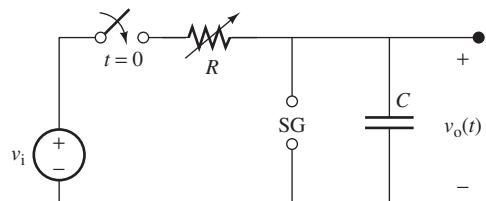
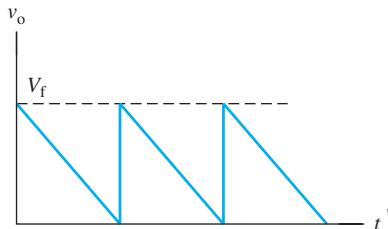

FIGURE P5.13 A sawtooth signal generator (SG).
FIGURE P5.17 The sawtooth wave for Problem 5.17.
The voltage, $v_0(t)$, across the capacitor, C , in the circuit shown in Figure P5.13 is a sawtooth waveform. The resistor, R , is adjustable. An SG represents a spark gap, which consists of two electrodes with adjustable distance. When the voltage across the SG is small, the SG is open. When that voltage exceeds the breakdown voltage, V_f , a spark will jump across the electrodes so that SG gets short-circuited. When the voltage across SG drops to zero, the SG is an open circuit. Close the switch at $t = 0$ and draw the waveform of $v_0(t)$.
- 5.17** (H) Given the circuit shown in Figure P5.13, assume that you are provided with an extra voltage source supplying v_f . Use these components to design and sketch a new circuit that can generate a voltage waveform v_o as shown in Figure P5.17.